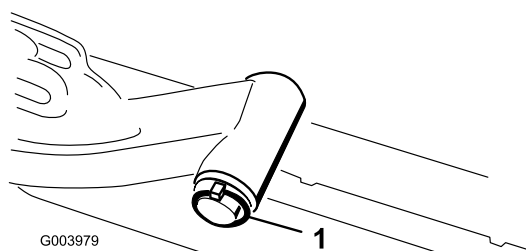

Figure 8
- A. Remove the lynch pin and washer securing the lift-arm-pivot shaft to the lift arm and slide the lift-arm-pivot shaft out of the lift arm (Figure 8).
- C. Insert the lift-arm shaft into the lift arm and secure it with the washer and lynch pin (Figure 8).